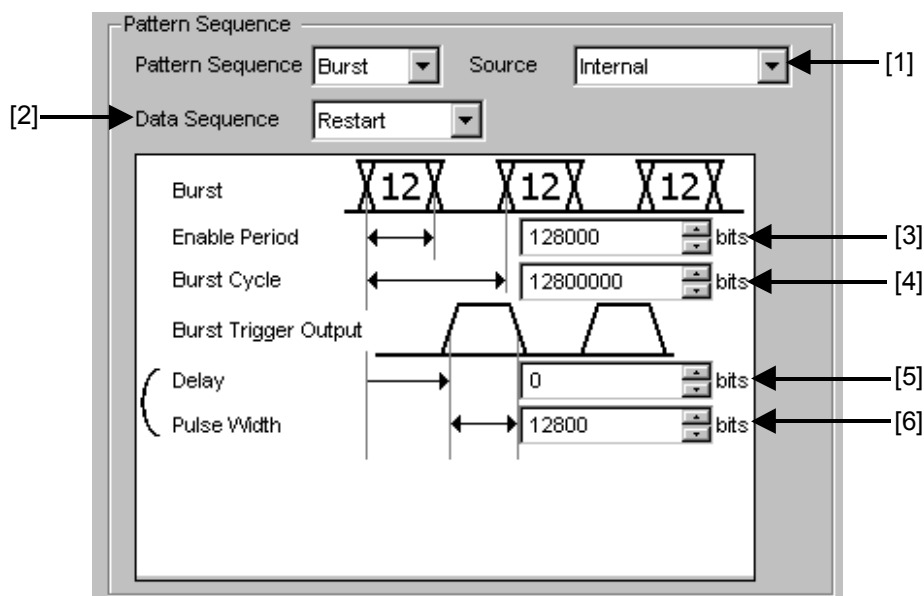

Figure 5.4.1.2-1 Setting items for Burst pattern sequence
- [3] When External-Trigger or Internal is selected from the Source list box ([1] in Figure 5.4.1.2-1), set the continuous signal generation period for the Burst cycle of the test pattern to be input to the AUX Input connector, by entering the number of bits in the Enabled Period text box. The setting ranges for Enable Period are shown in Table 5.4.1.2-3.
- [4] When Internal is selected from the Source list box ([1] in Figure 5.4.1.2-1), set the Burst cycle (one cycle of the Burst signal of the test pattern to be input) by entering the number of bits in the Burst Cycle text box. The setting ranges for Burst Cycle are shown in Table 5.4.1.2-3.